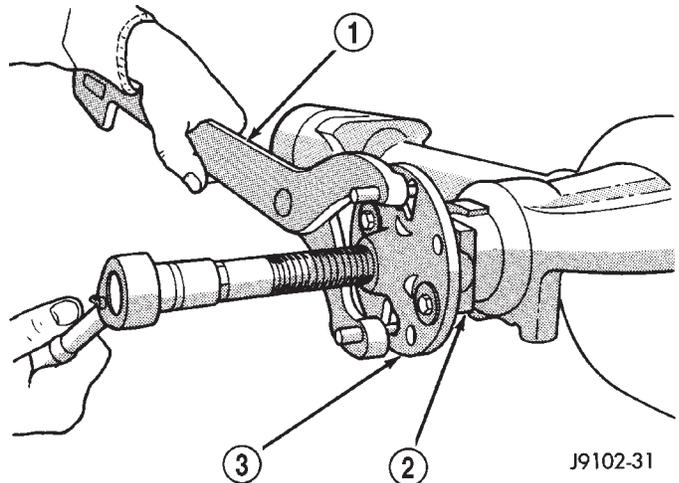

Fig. 42 PINION YOKE REMOVER
- (1) With vehicle in neutral, position vehicle on hoist.
- (2) Remove brake rotors and calipers.
- (3) Remove propeller shaft from axle yoke.
- (4) Rotate pinion gear three or four times.
- (5) Record rotating torque of the pinion gear with an inch pound torque wrench.
- (6) Hold pinion yoke with Spanner Wrench 6958 and remove pinion nut and washer.
- (7) Remove pinion yoke with Remover C-452 and Flange Wrench C-3281 (Fig. 42).